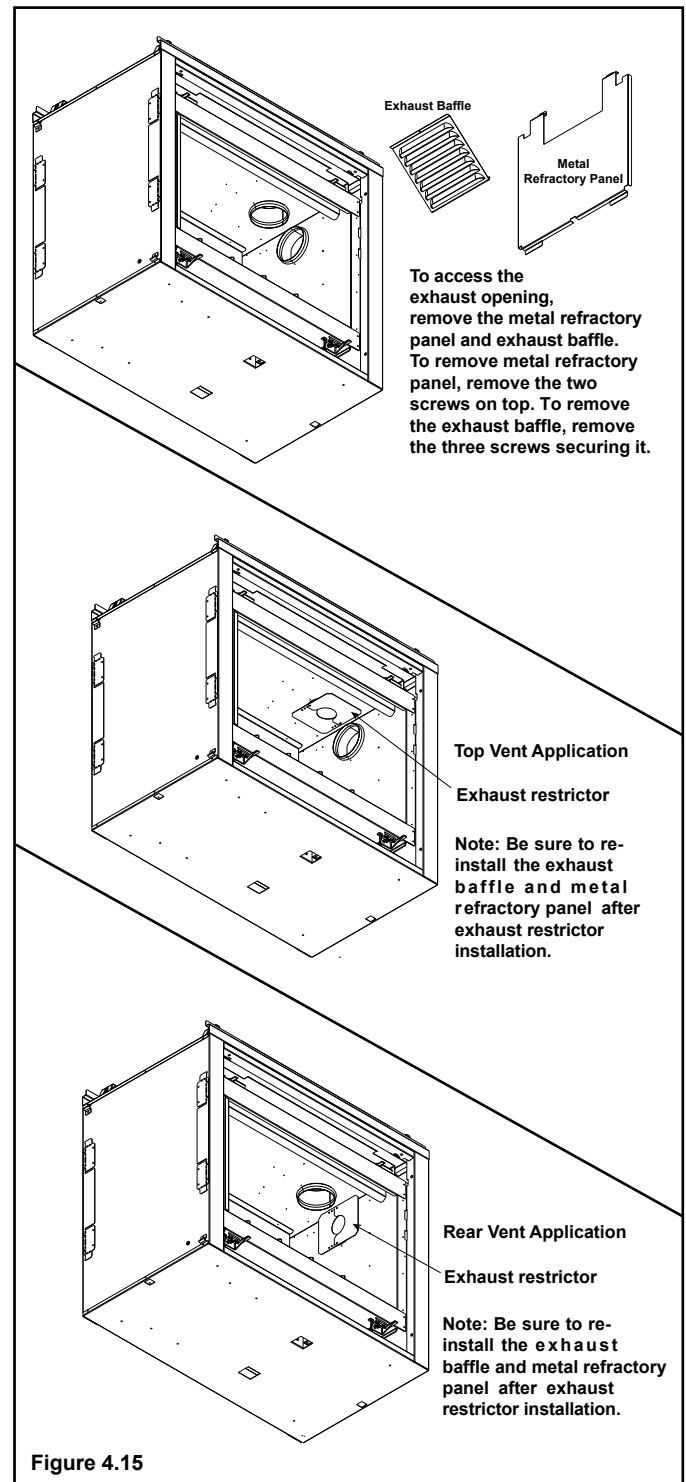

Figure 4.15
1. Remove metal refractory panel and exhaust baffle from pilot side of appliance. To remove the refractory panel use a 1/4 inch nut driver and remove the two screws that secure it in place. To remove the exhaust baffle, remove the three screws securing it panel in place. See Figure 4.15.